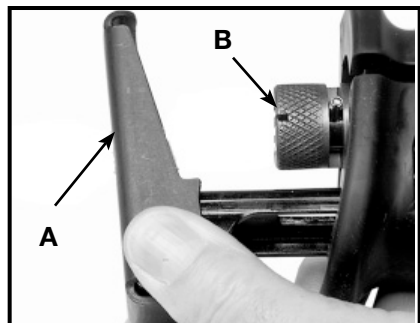

Fig. 2
2. Pivot the guide shoe (A) Fig. 2, forward to improve access to the blade clamp (B) Fig. 2.
3. To open the blade clamp: rotate and hold the blade release collar (A) Fig.